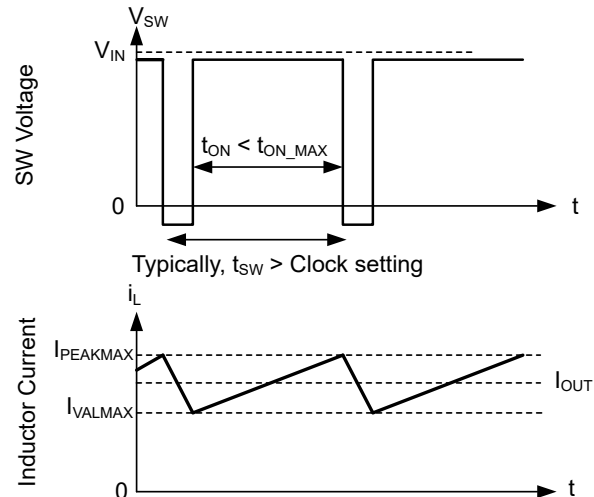

Figure 7-11. Current Limit Waveforms
When the low-side (LS) switch is turned on, the current going through it is also sensed and monitored. Like the high-side device, the low-side device has a turn-off commanded by the internal error amplifier loop. In the case of the low-side device, turn-off is prevented if the current exceeds this value, even if the oscillator normally starts a new switching cycle. Also like the high-side device, there is a limit on how high the turn-off current is allowed to be. This limit is called the low-side current limit,  $I_{LS-LIMIT}$  in Figure 7-11. If the LS current limit is exceeded, the LS MOSFET stays on and the HS switch is not to be turned on. The LS switch is turned off after the LS current falls below this limit and the HS switch is turned on again as long as at least one clock period has passed because the last time the HS device has turned on.